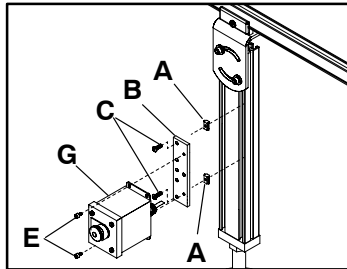

Figure 10
1. Attach Pushbutton Box (G of Figure 10) to mounting plate (B) with screws (E).
2. Insert two Single Drop-in T-bars (A) into Leg slot.